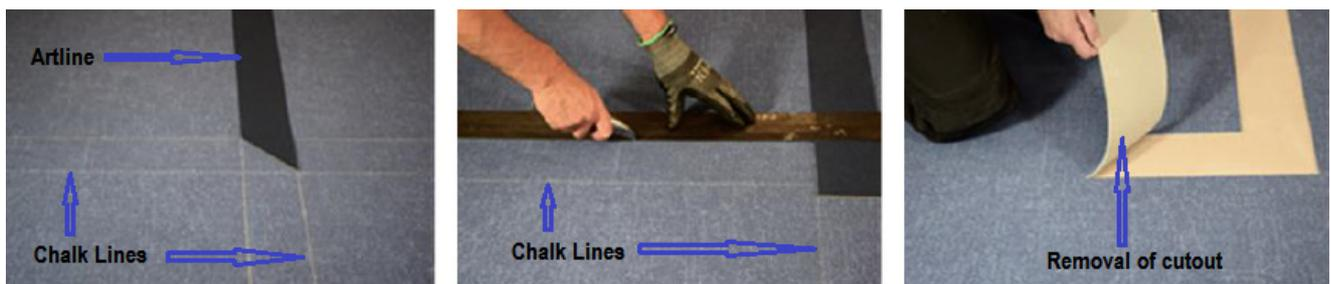

Fig 8.
- Place the cutting guide in position and cut out the required flooring, cutting from both sides. Remove the cut piece of material. **Refer to Fig 8.**